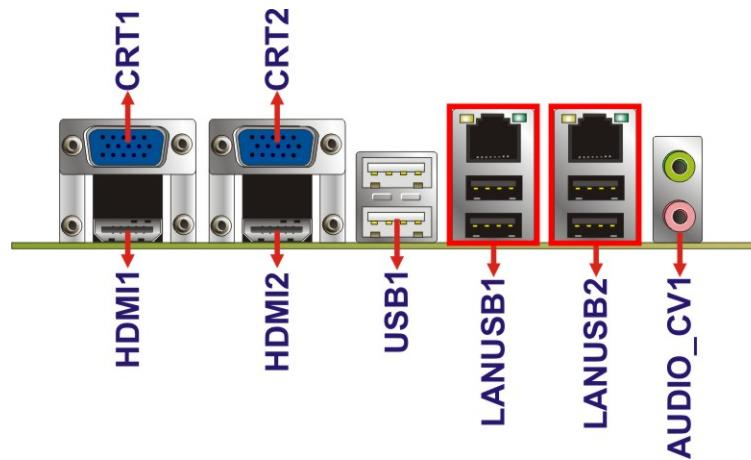

Figure 3-24: KINO-AH611 External Peripheral Interface Connector
Figure 3-24 shows the KINO-AH611 external peripheral interface connector (EPIC) panel.
**CN Location:** See Figure 3-24
**Figure 3-25: Audio Connector****3.3.2 Ethernet and USB Connector****CN Label:** LANUSB1, LANUSB2**CN Type:** RJ-45 , USB port**CN Location:** See **Figure 3-24****CN Pinouts:** See **Figure 3-26** and **Table 3-21**
**CN Location:** See **Figure 3-24**